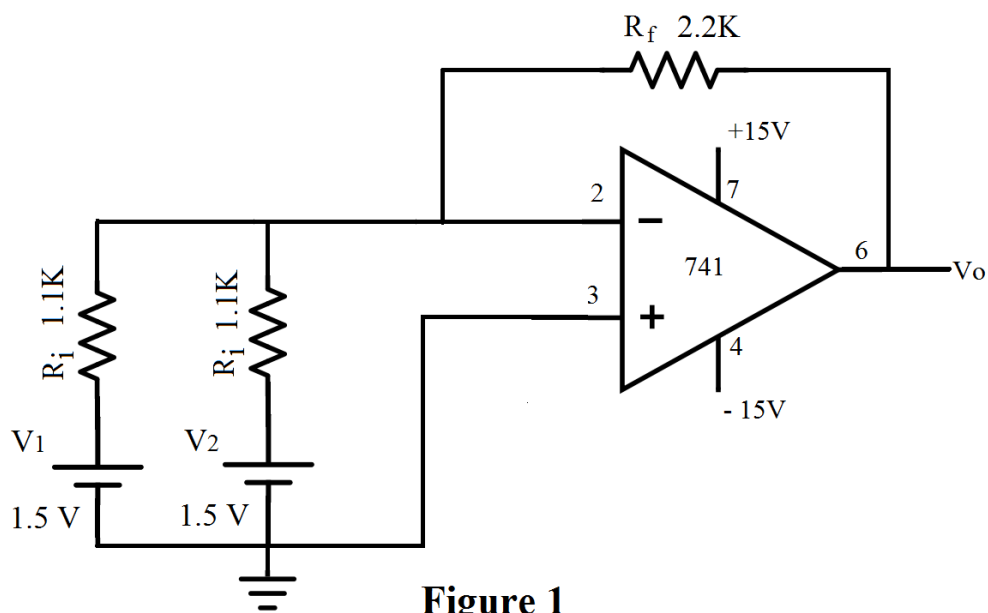

Figure 1
4. Give $V_1=V_2= +1.5V$ DC with polarity as shown in fig.1.